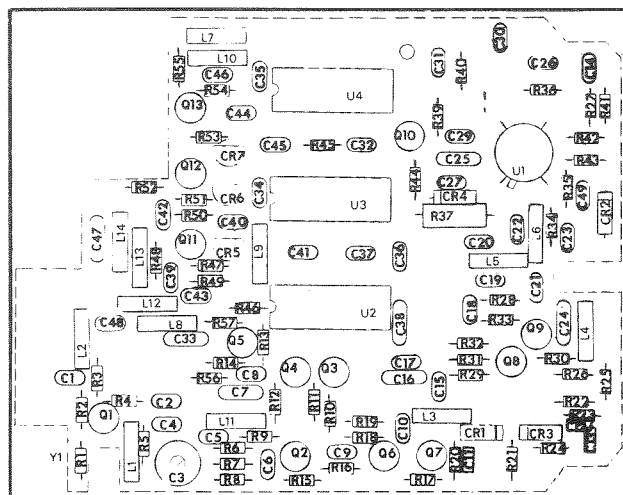

Figure 4-8. RF PC Board, Marker Section
5. Connect Input of spectrum analyzer to TP1 on RF PC board (Figure 4-8).
1. Connect Input of spectrum analyzer to collector of Q1 (Figure 4-8).
2. If 100 MHz signal is not present, adjust C3 (Figure 4-8).
3. If the above tests do not reveal the trouble, check stages Q6 through Q10, U1 and their components (Figure 4-8).
q. If either the 25, 5 or 1 MHz marker is absent from the CRT display, check for the 100 MHz waveform at pin 1 of U2 (Figure 4-8).
- r. If the 100 MHz waveform is absent at pin 1 of U2, check Q3, Q4, Q5 and their components (Figure 4-8).
1. Locate R57 (Figure 4-8). R57 is a factory-select resistor that may or may not be used.